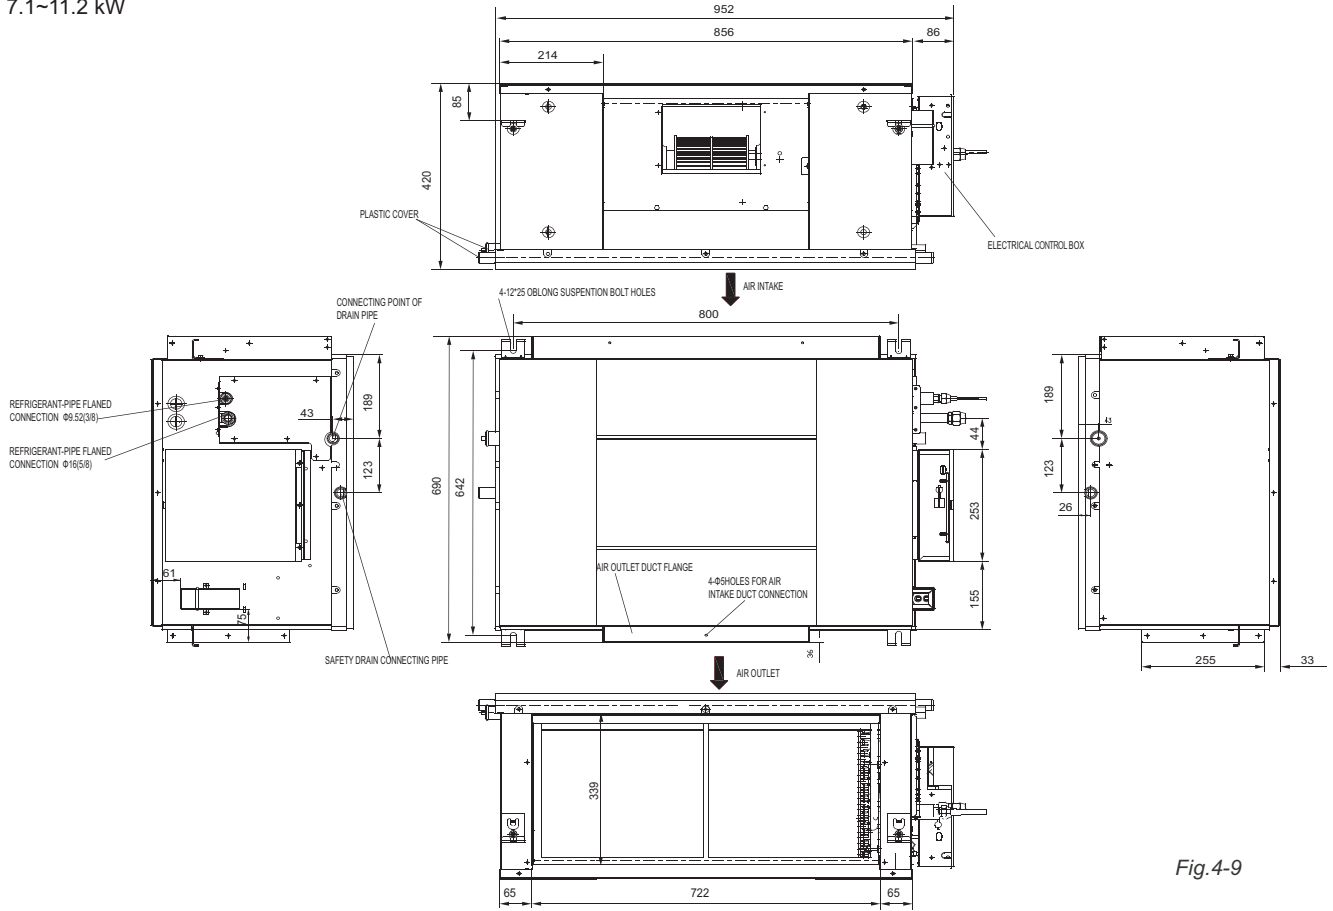

Fig.4-9
- ① Routine method of installation: the size of installation for indoor unit following Fig.4-9
- ② Please install with Φ10 hanging screw bolts.
- ③ Carry out the pipe and line operation in the ceiling after finishing the installation of the main body. While choosing where to start the operation, determine the direction of the position the refrigerant pipes, drain pipes, indoor & outdoor lines and line-controlled lines to the connection places before.